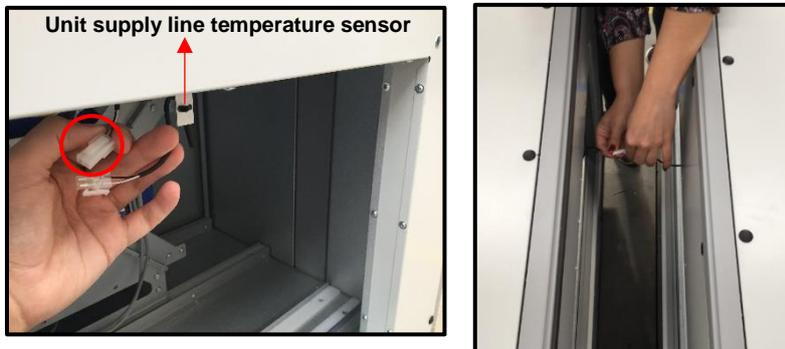

Fig. 97
a. Remove the temperature sensor connection from the unit supply line (if the heater module is not available) or heating module. If the cooling module is to be connected directly to the device, connect the device connector and the cooling module connector each other (Fig. 97)